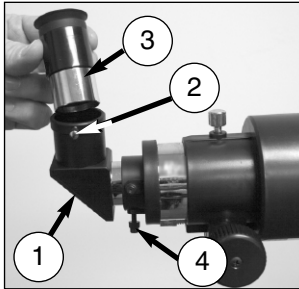
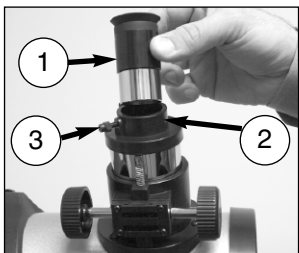

Fig. 9: Attach the diagonal prism (1), tighten prism thumbscrews (2), insert the eyepiece (3), tighten eyepiece thumbscrews (4) (Reflector models).
Fig. 10: Insert the eyepiece (1) into the eyepiece holder (2), tighten eyepiece thumbscrew (3) (Reflector models).
11. **Insert the eyepiece:** Remove the supplied eyepiece (3, Fig. 9) from its container and place it in the diagonal prism (*refractor models only*, 1, Fig. 9) or directly into the eyepiece holder (2, Fig. 10, *reflector models only*). Tighten the thumbscrews (2 and 4, Fig. 9, *refractor models only*) to a firm feel only. Tighten the thumbscrew (3, Fig. 10, *reflector models only*) to a firm feel only.